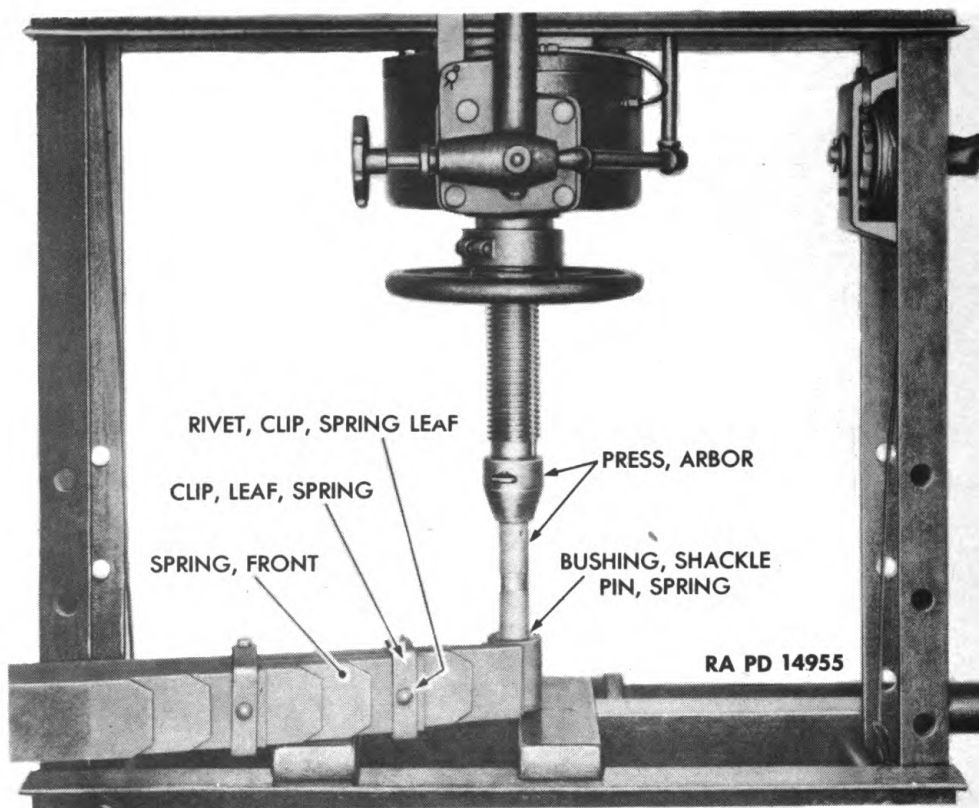

Figure 86—Removing Spring Shackle Pin Bushing
(a) Remove two spring shackle pin bushings from front spring (hydraulic press) (fig. 86). Repeat procedure to remove opposite spring shackle pin bushing.
- (1) Coat surface of each spring leaf with graphite lubricant.
- (2) Rivet the four spring leaf clips to spring leaf (hammer) (fig. 85). Assemble spring leaves and install leaf clip bolts and nuts ($\frac{1}{2}$ -in. open-end wrench) (fig. 85). Install spring center bolt and nut ($\frac{9}{16}$ -in. box wrench). Press two spring shackle pin bushings into front spring (hydraulic press) (fig. 86).